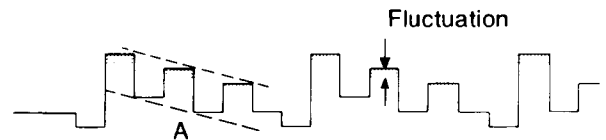

Figure 6
- (1) Send the SECAM COLOUR BAR SIGNAL to the antenna and adjust colour + / - so that colour level may be the mechanical center set.
- (2) Connect oscilloscope probe to pin 6 of the IC501.
- (3) Adjust VR601 to waveform A in figure 6.
- (4) Adjust L603 to minimum fluctuation as shown in figure 6.